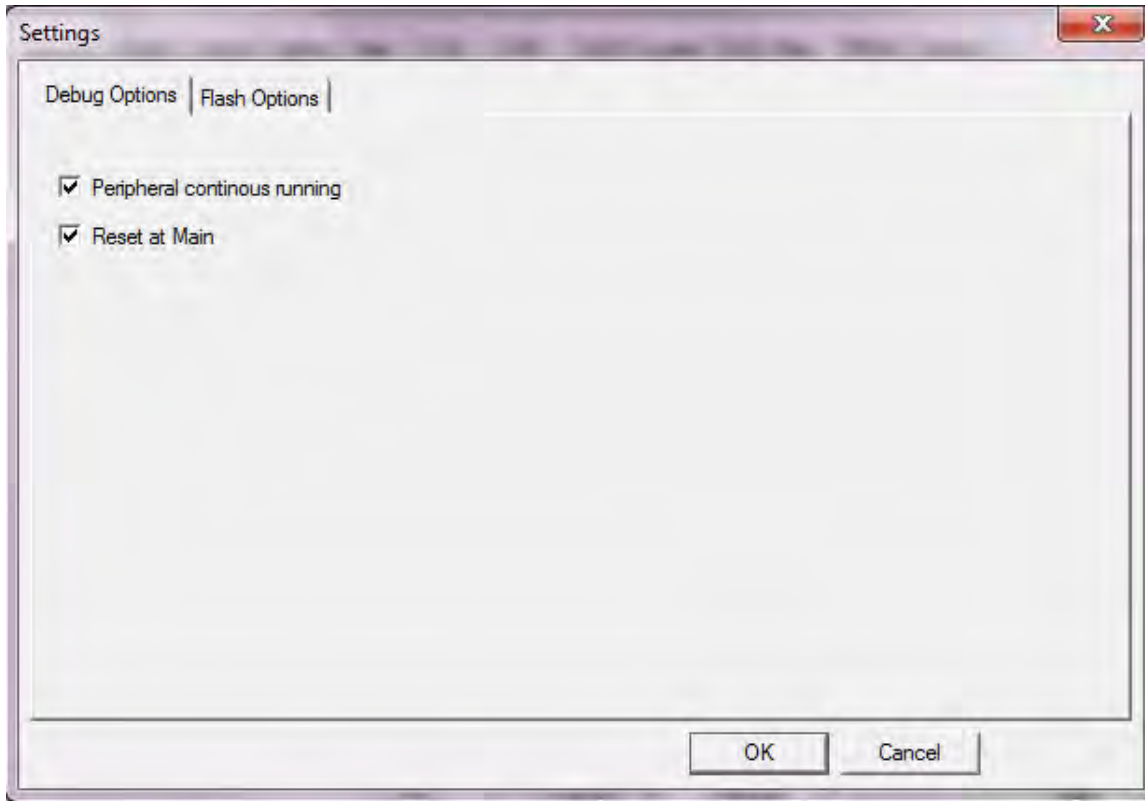

Figure 25. Configuring the Debug Options
7. Click the **Settings** button, located to the right of this drop-down menu, to configure your Debug and Flash options. The Settings dialog is displayed with the Debug Options tab appearing by default, as shown in Figure 25.